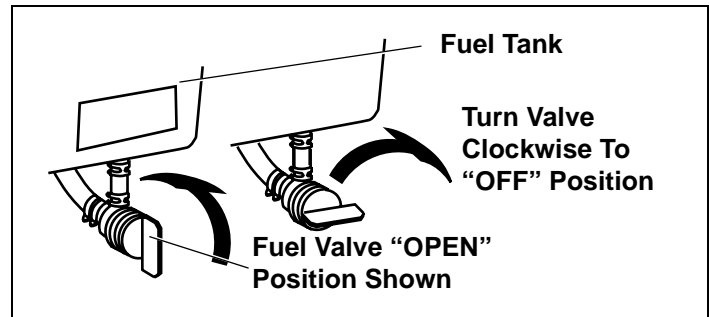

Figure 16. Fuel Valve Positions
6. Be sure fuel valve, if present (see equipment manufacturer's instructions) is open. See Figure 16.